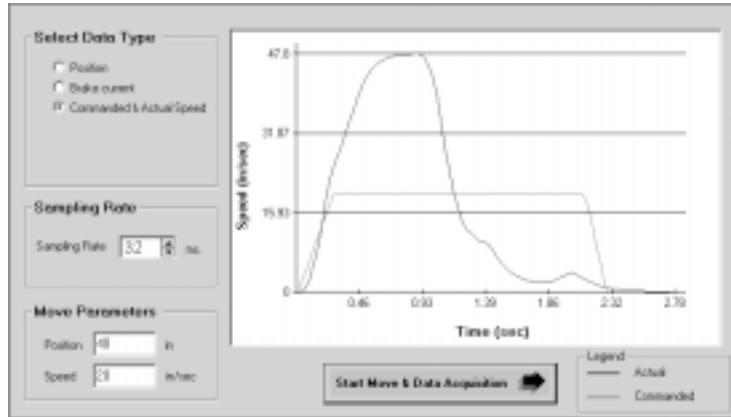

Figure 7.6b
- Increase the air pressure if need be and take another Data Acquisition file. See Fig 7.6b, this data file is with 40 PSI air pressure. Notice the high acceleration rates and speeds, this pressure is too high to optimize the performance of the system.